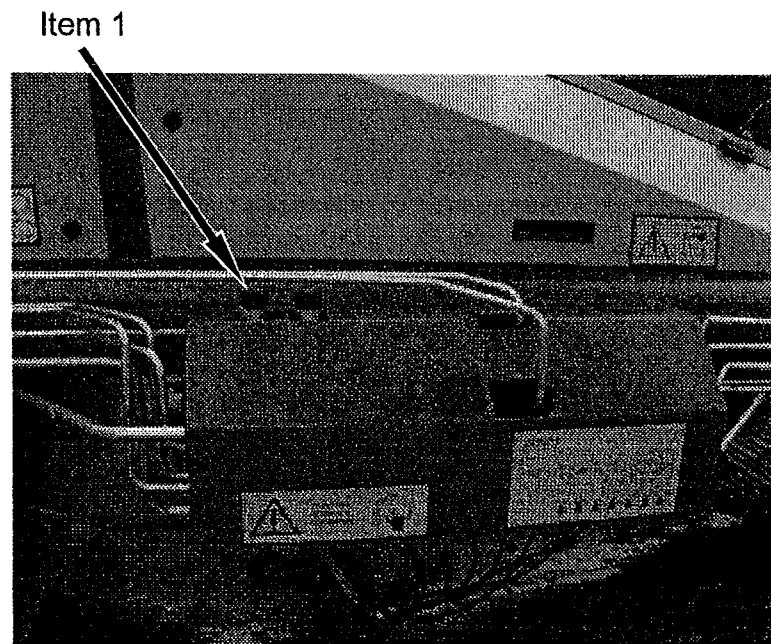

Fig 10.13
The speed of the vari-web is normally manually controlled by a valve on the tractor valve bank situated on the right hand side of the machine item 1 Fig 10.13, but can be made remote controlled from the drivers control box.